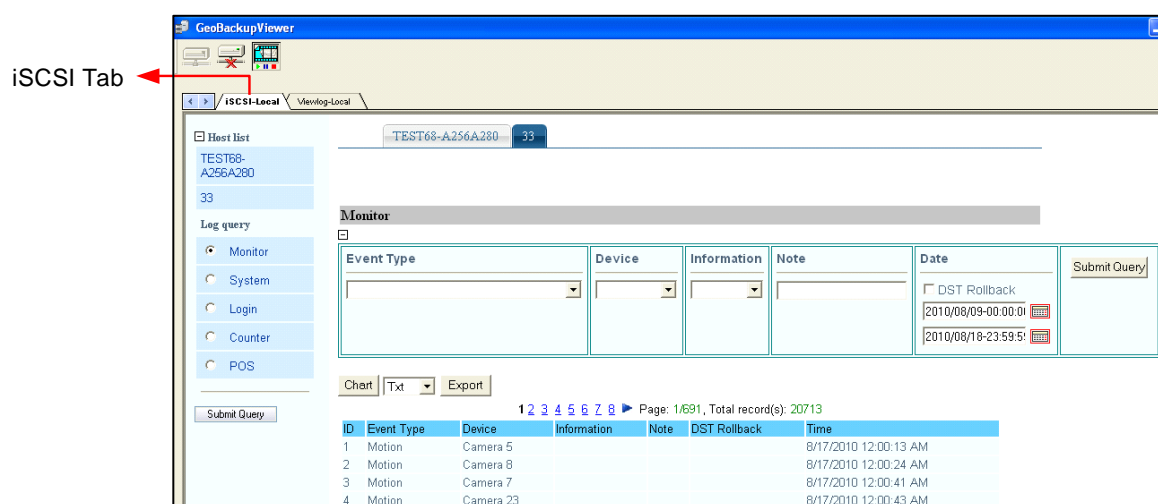

Figure 11-59
2. Run **Backup Viewer**. The Backup Viewer window (Figure 11-59) appears.